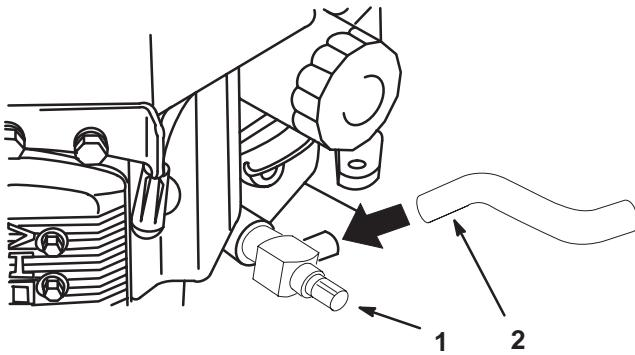

Figure 30
- Place a pan below the drain hose. Rotate oil drain valve to allow oil to drain (Fig. 30).
- Remove the drain hose (Fig. 30).